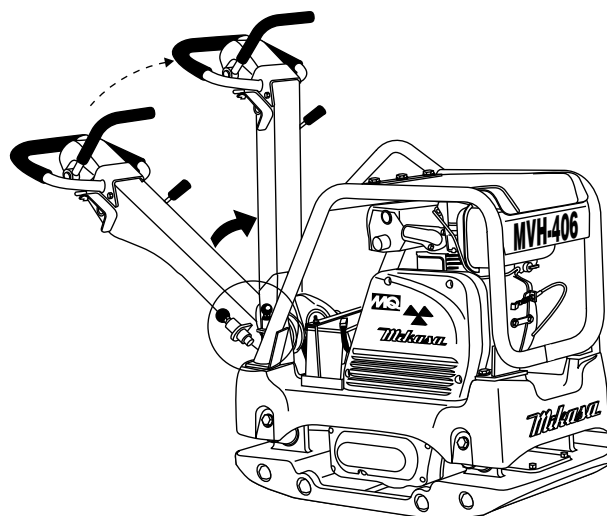

Figure 20. Stowing The Handle
1. Push up the handle upward (Figure 20) until the handle locks in place.